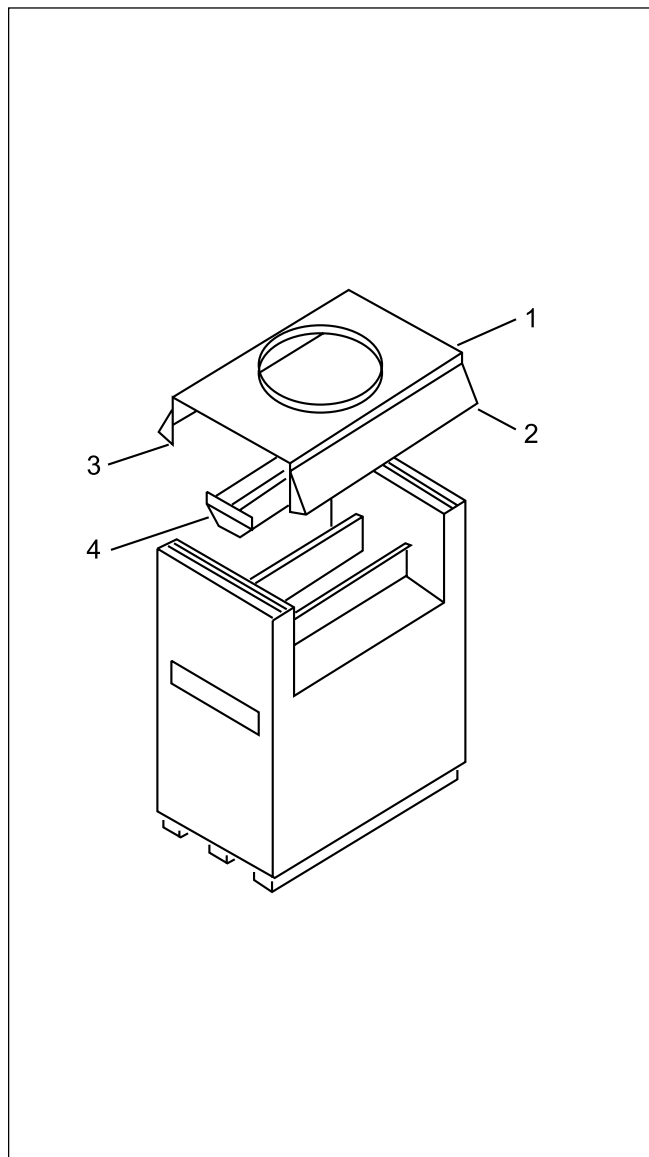

Figure 16. Removal of Indoor Parts.
Please read the following instructions with Figure 16.
6.1.1 SECTION I: (See Figure 16)